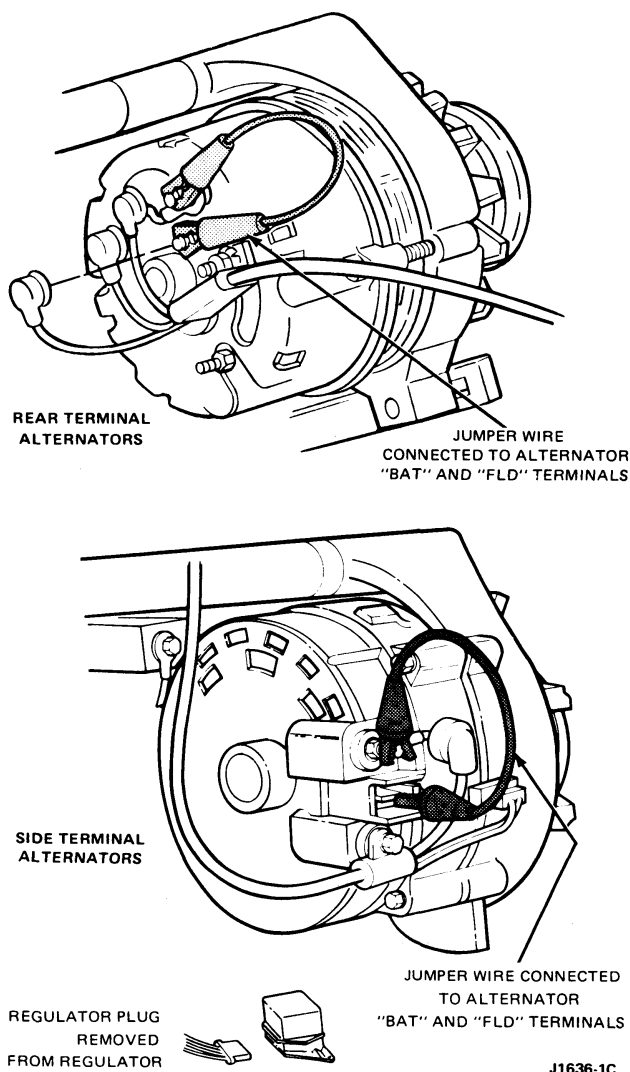

FIG. 4 Jumper Wire Connections
3. If the Voltmeter still indicates under voltage, remove the jumper wire from the regulator plug and leave the plug disconnected from the regulator. Connect a jumper wire to the FLD and BAT terminals on the alternator (Fig. 4) and repeat the LOAD TEST. If the voltmeter now indicates more than one-half volt above the base voltage, repair the wiring harness from the alternator to the regulator.